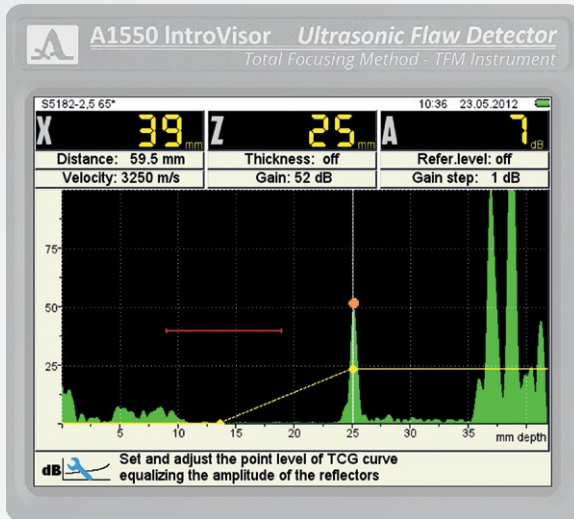

FIGURE 34
2) Press the  key to capture the signal. A yellow dot will appear at the signal peak. See Figure 34.